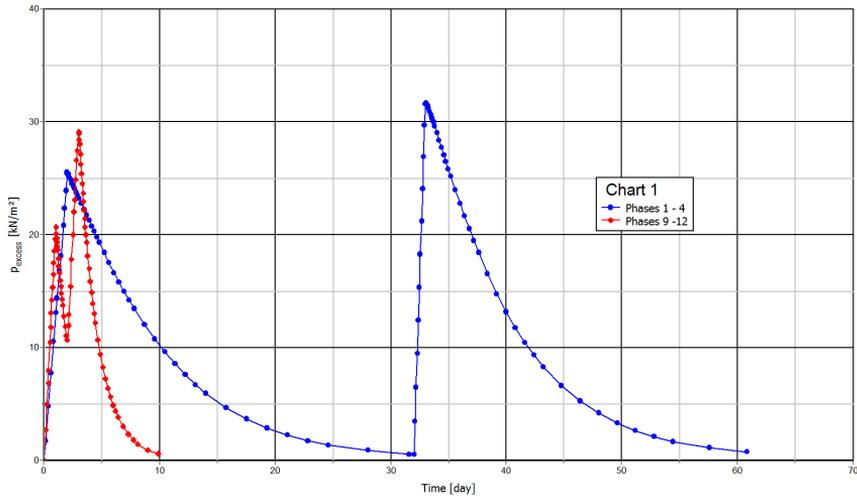

Figure 4.18 Effect of drains
- Click *OK* to close the *Settings* window. The chart (Figure 4.18) gives a clear view of the effect of drains in the time required for the excess pore pressures to dissipate.